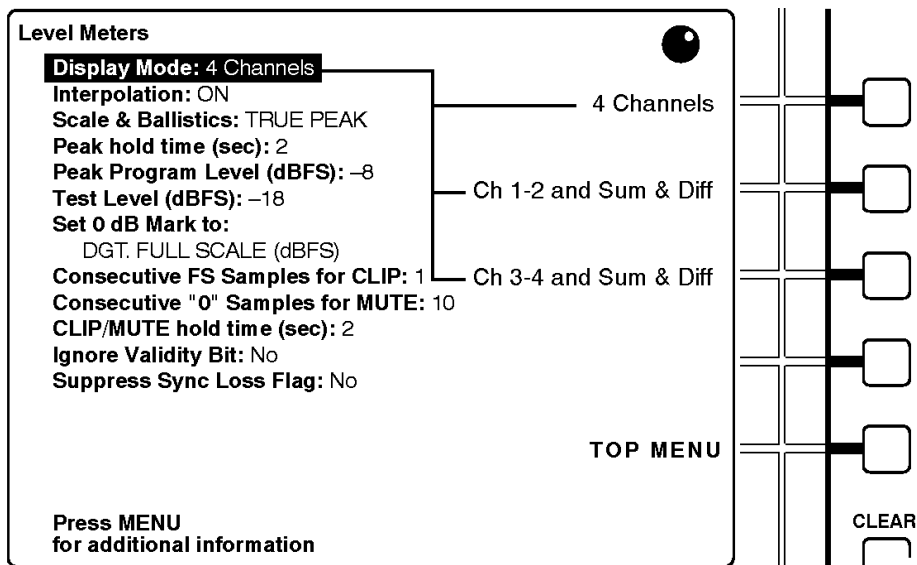

Figure 18: The Level Meters submenu
4. Press any soft button to enter the level meters submenu. The display will resemble Figure 18.